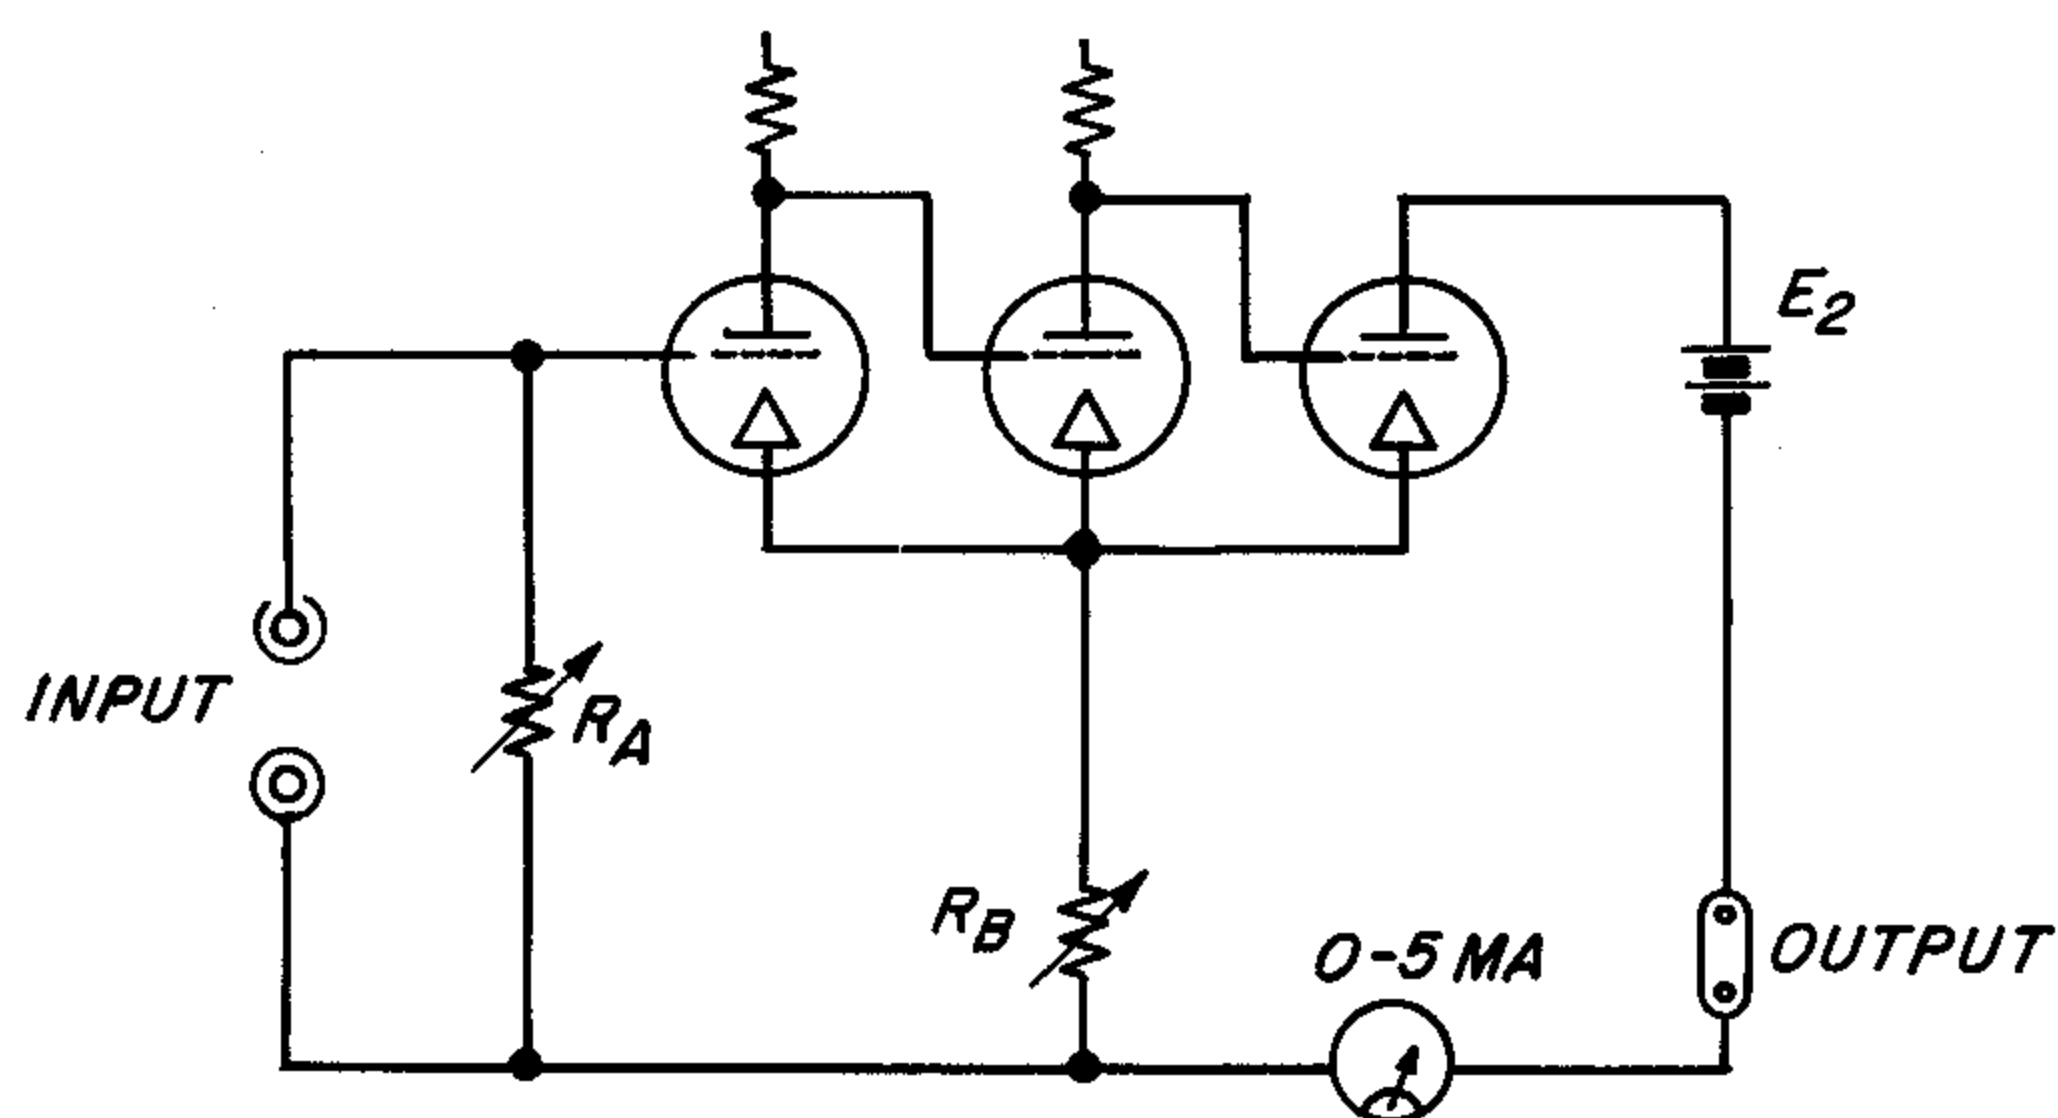

Figure 2. Cathode-Follower Circuit.
2.1.1 The amplifier circuit is essentially a cathode-follower, where the "tube" is a three-stage, direct-coupled amplifier. (See Figure 2.) The net transconductance is so great that the voltage change across the cathode resistor is essentially the same as the voltage applied to the input terminals. The panel meter reads the current change in the cathode resistor ( $R_B$ ) and is calibrated to read voltage directly. Different ranges are obtained by the selection of different values for  $R_B$ . The meter zero is the same for all ranges. The full-scale ranges are 30, 100, and 300 millivolts, 1, 3, and 10 volts. The corresponding  $R_B$  values are 6, 20, 60, 200, 600, and 2000 ohms.
2.1.2 Because the first stage is an electrometer tube, the grid current is small (about  $10^{-14}$  amperes). The glass envelope of the tube has been treated with General Electric Dri-Film SC-87, and all other insulation of the input circuit is of teflon. As a consequence, the input resistance is determined by the setting of the INPUT RESISTANCE switch ( $R_A$ , Figure 2), even under conditions of high humidity.